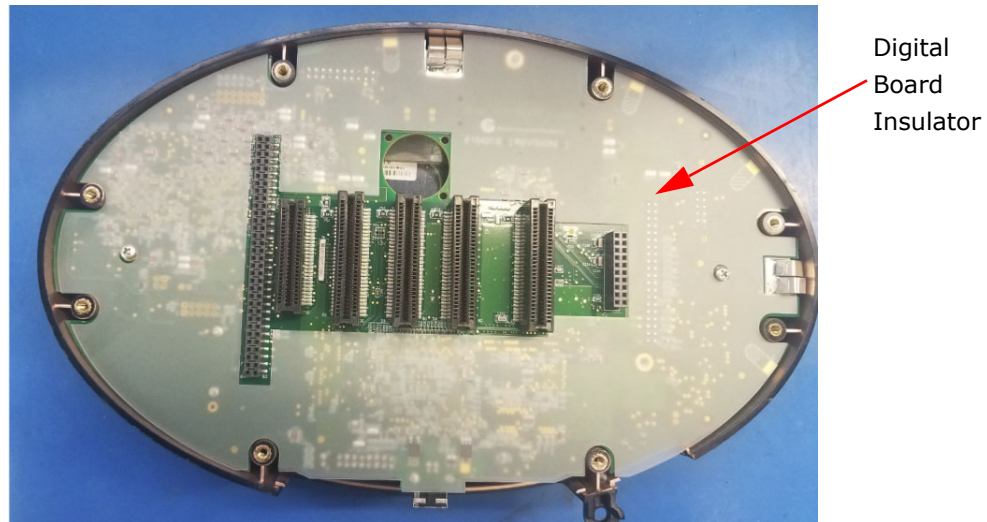

Figure 3-21: Replacing the Digital Board Insulator
16. Place the digital board insulator on the digital board as shown in Figure 3-21. The EMI shielding tabs of the digital board should be placed within the boundaries of the front panel shell, not on the outer surface of the front panel shell.